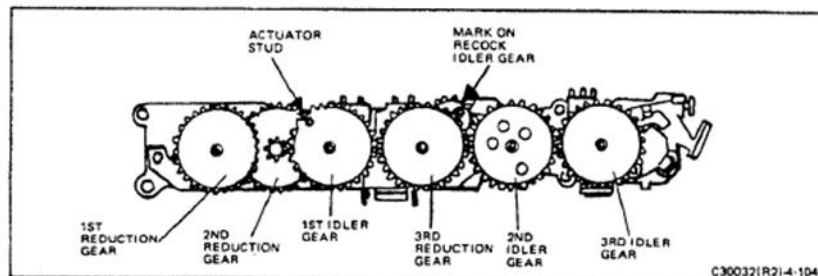

FIGURE 4-104 RELATIONSHIP OF GEARS
6. Install the 1st idler gear in such a position that the stud on the gear is at the point where the gear overlaps the 2nd reduction gear (see Figure 4-104). (The first idler gear may be either green or black. Newer gears are black and are fully interchangeable with the green gears.)
5. Install the 1st idler gear so the stud on the gear is at the exact point where the gear overlaps the 2nd reduction gear (see Figure 4-104). (The 1st idler gear may be either green or black. Newer gears are black and are fully interchangeable with the green gears.)